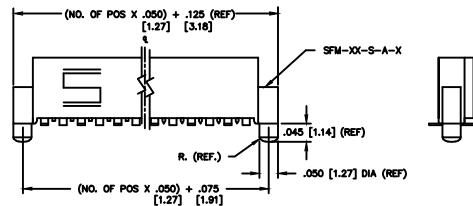

FIG. 4
-P: PICK AND PLACE PAD (SEE FIGURE 4)